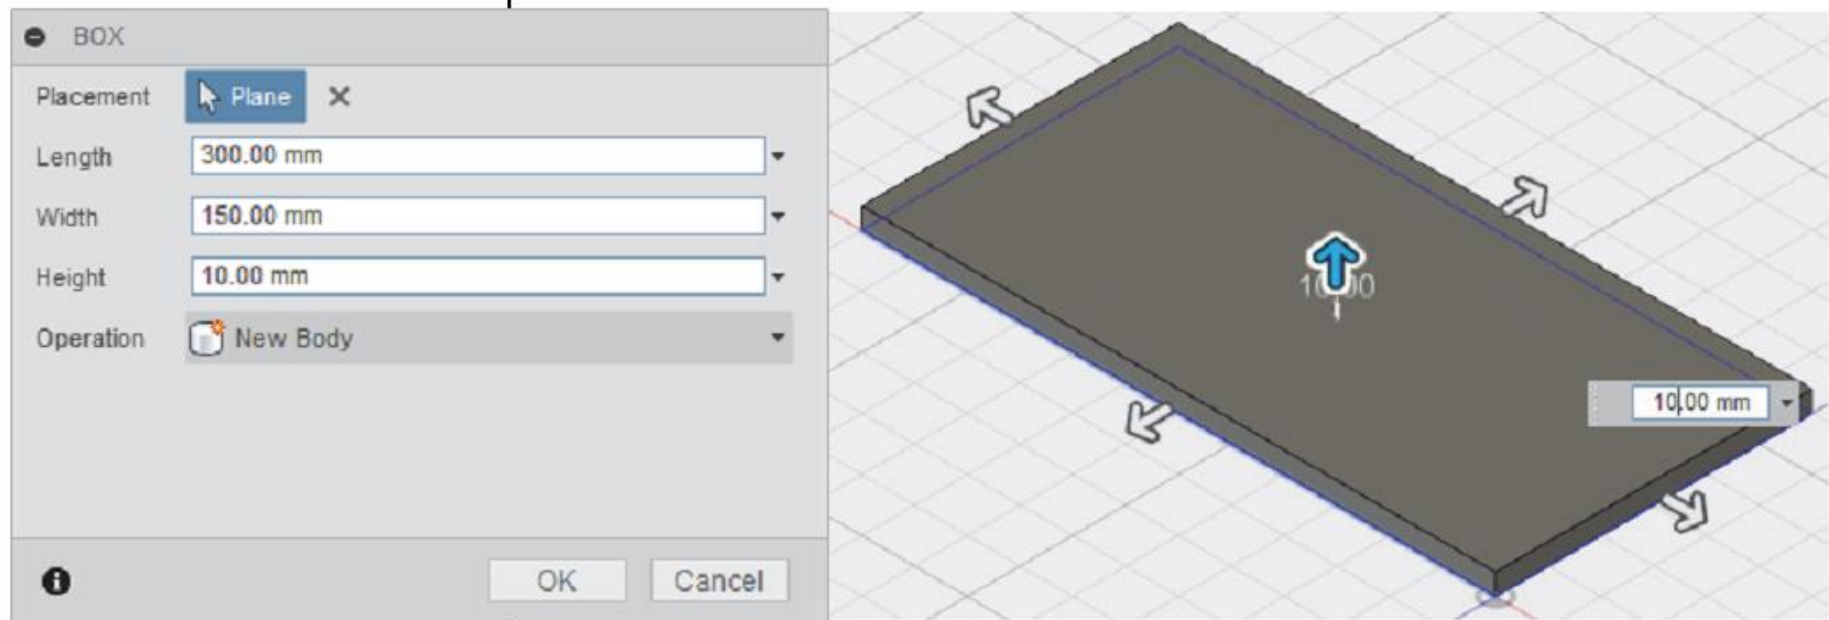

Figure 2–9
20. The shape is automatically given a third dimension. Five manipulator arrows display surrounding the shape of the box, and the BOX palette opens, as shown in Figure 2–9.